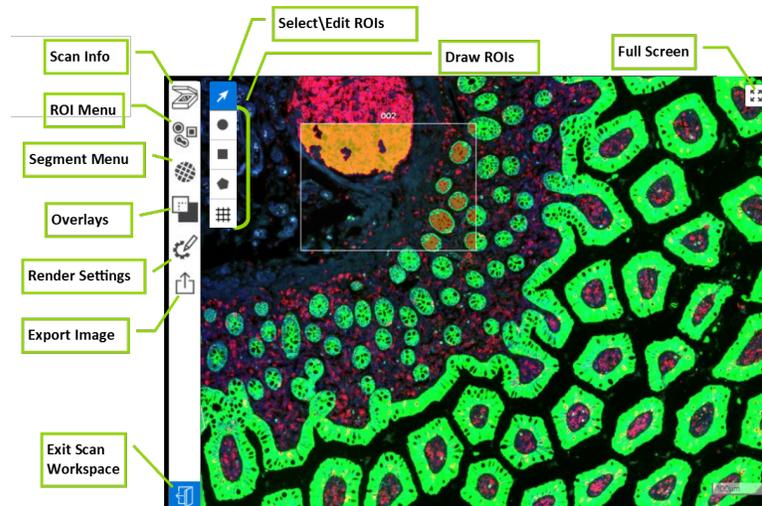

Figure 50: GeoMx DSP Scan Workspace with Exit button at lower left
1. Select the Exit button in the lower left of the Scan Workspace toolbar (Figure 50) when ROI selection is complete.